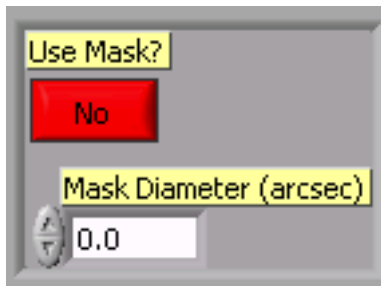

Figure 12 - Mask window
- 4) Select the **Mask** menu, turn on yes the “**Use Mask**” option (Figure 12) and choose the best **Mask Diameter**.